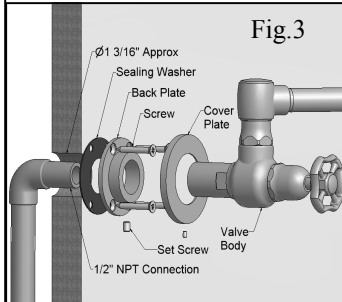

Fig.3
2. The **Flange** is adjustable on the **Pot Filler** so that a neat installation can be achieved without the need to precisely position the internal pipe work. The **Pot Filler** should be connected to a 1/2" NPT male connector. The **Flange** allows for 1/2" of adjustment during installation see [fig 3&4].